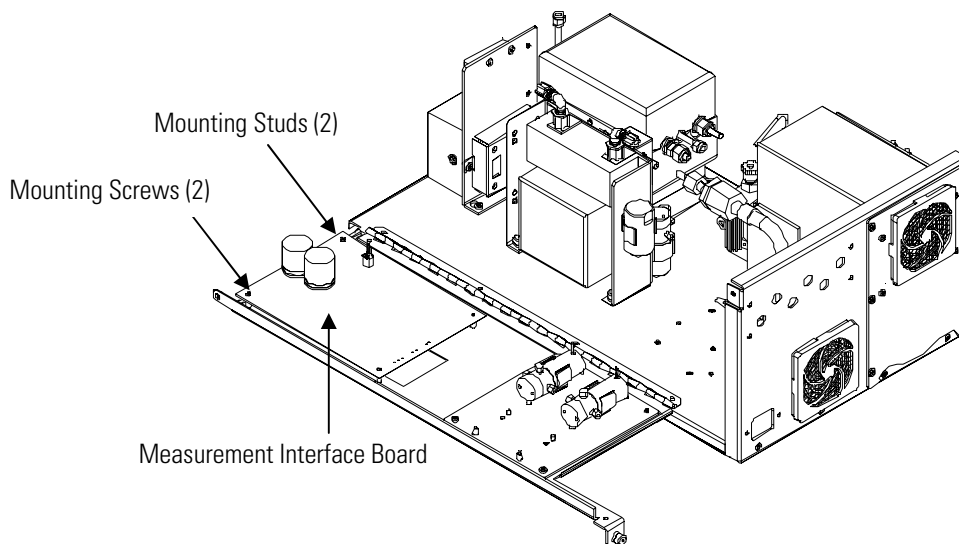

Figure 7-21. Replacing the Measurement Interface Board
Use the following procedure to replace the measurement interface board (Figure 7-21).
3. Unscrew the two screws at the top of the measurement interface board. Pop off the measurement interface board from the four mounting studs and remove the board (Figure 7-21).